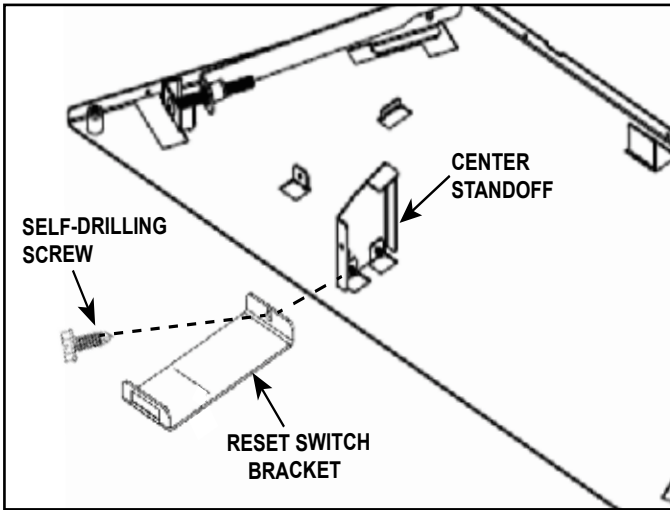

Figure 2 PROVIDENT/JASPER Bracket Location
1. Remove the shipping bracket from the surround. See Figure 2.
Note: For alternative rocker switch location using the rocker switch mounting bracket see Figure 2 for PROVIDENT/JASPER metal inserts and see Figure 3 for all other metal inserts.